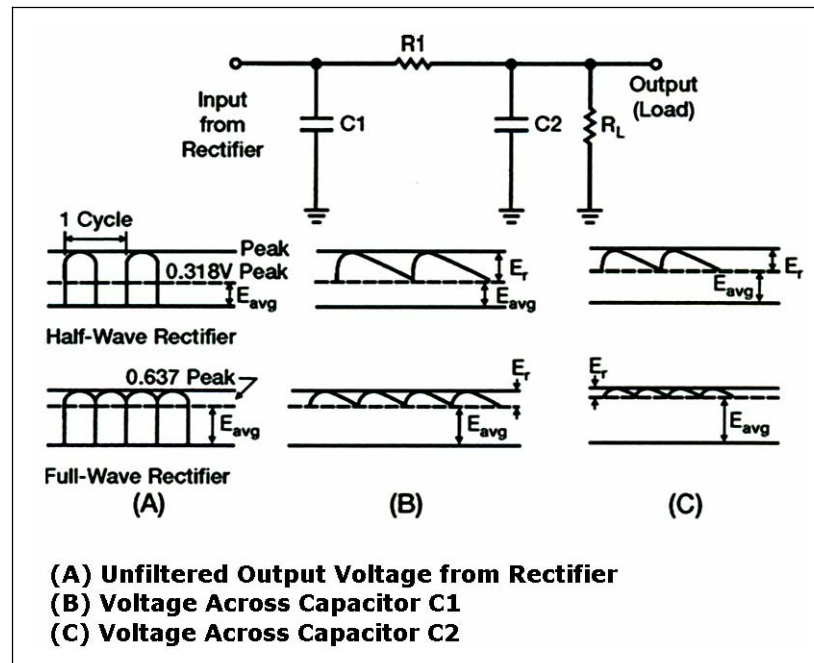

Figure 4-28. RC Filter and Waveforms
4-70. Figure 4-28 shows an RC capacitor-input filter and associated waveforms. Half-wave and full-wave rectifiers are used to provide the inputs. The waveforms shown in view (A) represent the unfiltered output from a typical rectifier circuit. Notice that the dashed lines in view (A) indicate the average value of output voltage (E_{avg}) for the half-wave rectifier. The average output voltage (E_{avg}) is less than half (approximately 0.318) the amplitude of the voltage peaks. The average value of output voltage (E_{avg}) for the full-wave rectifier is greater than half (approximately 0.637), but is still much less than the peak amplitude of the rectifier-output waveform. With no filter circuit connected across the output of the rectifier circuit (unfiltered), the waveform has a large value of pulsating component (ripple) as compared to the average (or DC) component.
4-71. The RC filter in Figure 4-28 consists of an input filter capacitor (C1), a series resistor (R1), and an output filter capacitor (C2). This filter is sometimes referred to as an RC pi-section filter because its schematic symbol resembles the Greek letter π .
4-73. Figure 4-28, views (A), (B), and (C) shows the output waveforms of a half-wave and a full-wave rectifier. Each waveform is shown with an RC filter connected across the output. The following explanation of how a filter works will show you that an RC filter of this type does a much better job than the single capacitor filter.